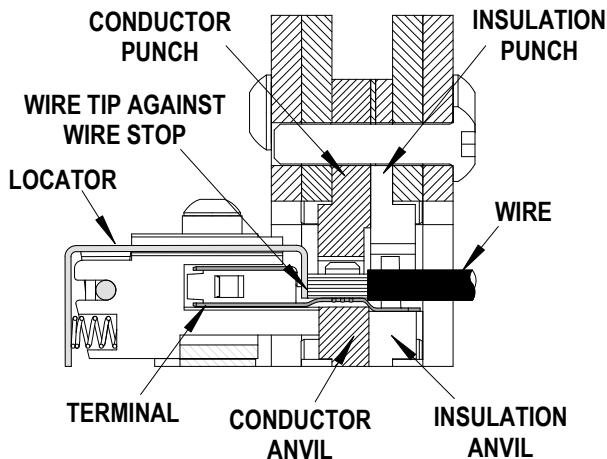

Figure 2
4. Insert the proper wire over the terminal with the tip against the wire stop. See Figure 2.